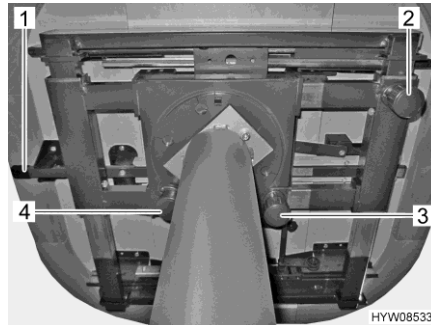
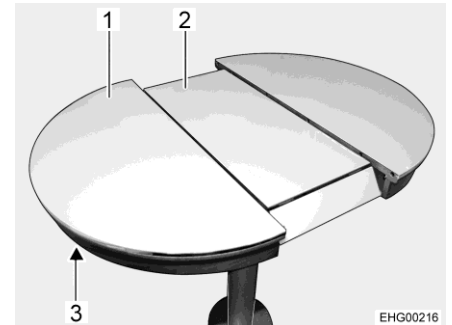

Fig. 88 Adjustment possibilities on the table
Fig. 89 Expanding the table top
- Pull down the knob (Fig. 88,3) and hold it.
- Pull down the knob (Fig. 88,2) and hold it.
- Pull down the knob (Fig. 88,4) on the lock.
- Press the release (Fig. 88,1 and Fig. 89,3) upwards.
- Pull on the table top (Fig. 89,1) until the centre section (Fig. 89,2) comes up and is at the same height as the table top.
- Press the release (Fig. 89,3) upwards.
- Pull on the table top (Fig. 89,1) until the centre section (Fig. 89,2) is freed.